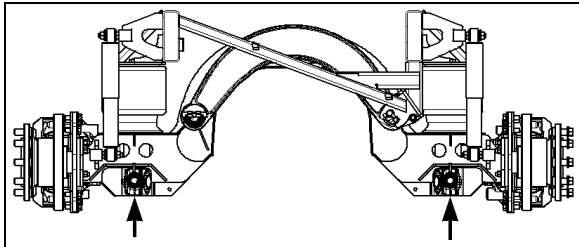

FIGURE 11: JACKING POINTS ON TAG AXLE 11029
3. Install jacks under tag axle jacking points to support the axle weight (refer to figure 11).